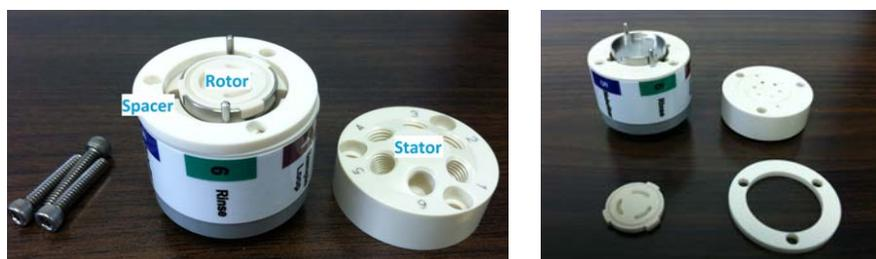

Figure A-18. Disassembled Sprint Valve showing spacer, rotor and stator
- Use the 3/32 inch hex wrench to loosen the three top screws. Remove the stator, ring spacer, and the rotor. See Figure A-18.